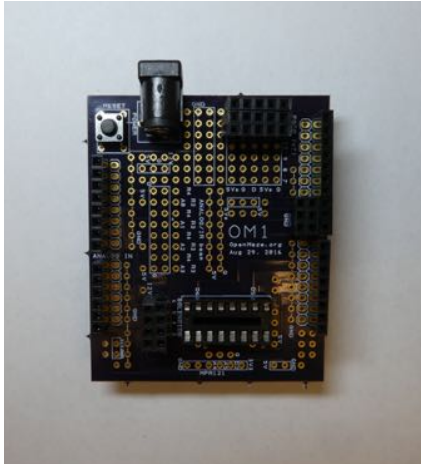

Figure 1: Top view of the finished board
*Figure 1: Scaled down version of all the electrical connections within the OM1 Shield. Red and blue lines are used just to differentiate connections. They do not carry any meaning.*